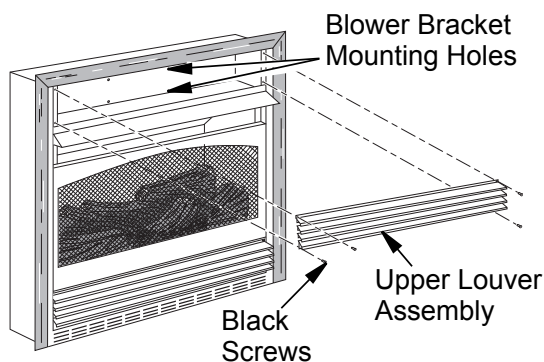

Figure 15 - Removing Upper Louver Assembly
- Remove 4 screws from louver assembly (see **Figure 15**). Save these screws.
NOTE: When switch is in AUTO position, fan will start after heater has run for a few moments. Fan will continue to run for several moments after heater has been turned off. When switch is in the ON position, fan will run until turned to OFF. Reinstall upper louver assembly and hood if previously removed, (see **Figure 15, Page 15**). Close lower louver door.
8. Reinstall upper louver assembly and hood if previously removed, (see **Figure 15, Page 15**). Close lower louver door.